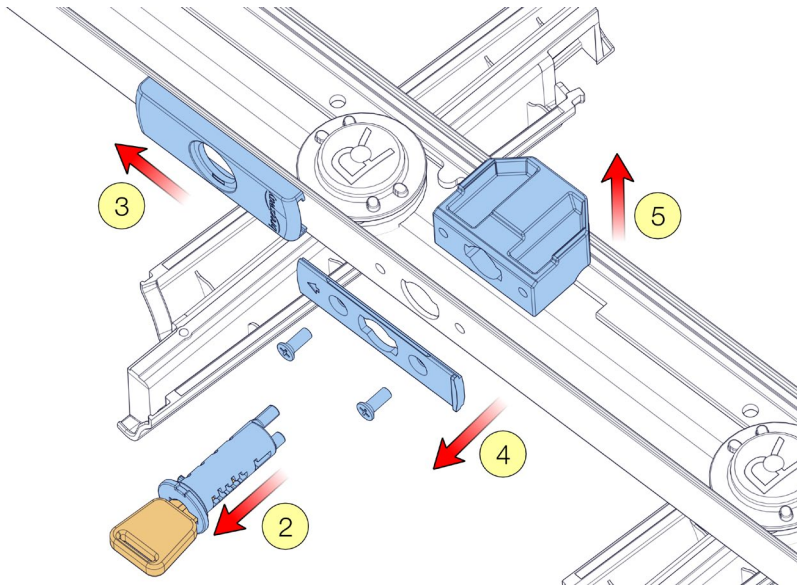

Fig. 23.4.1.3.2-1.1
9. If the key does not rotate to vertical or can not be removed in the locked position, file a larger flat onto the long barrel pin. *Refer to Figure 23.4.1.3.1-1.2.*